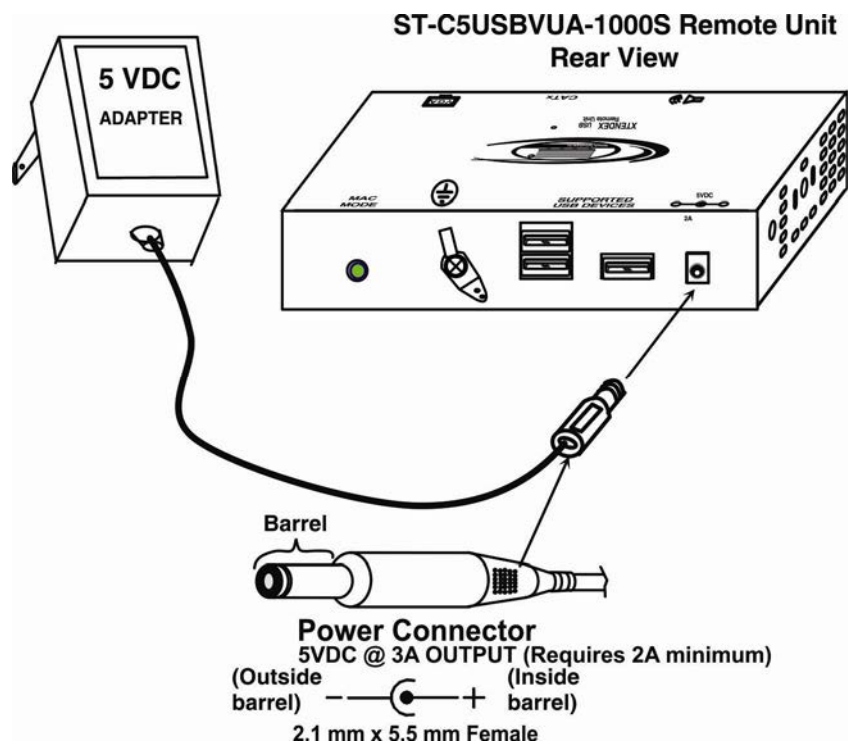

Figure 5- Connect AC adapter to Remote Unit
2. Connect one AC adapter power connector to the 5VDC port on the back of the Local Unit. (AC adapter shown in Fig. 5)